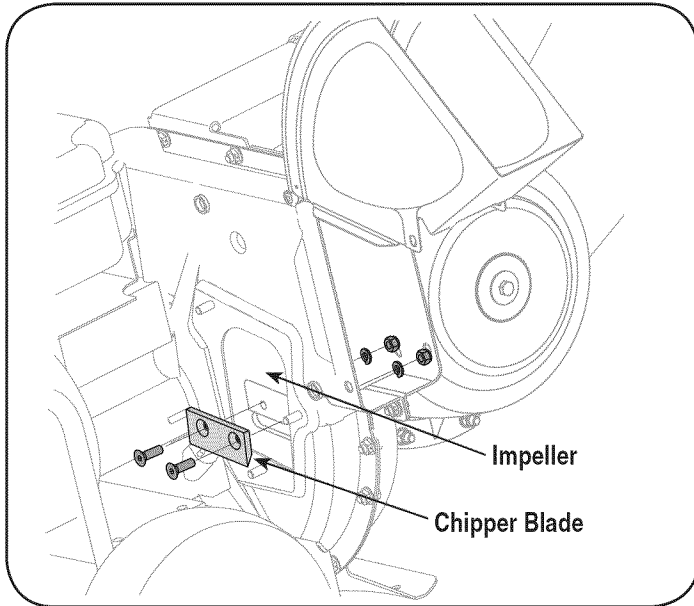

Figure 15
6. Remove the blade by removing the internal hex screws, lock washers, and hex nuts which secure it to the impeller. Retain the hardware. See Figure 15.